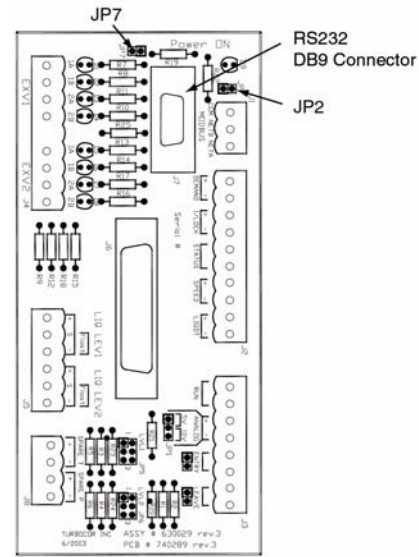

Figure 1 RS232 Connector - Chiller Interface Module
1. Connect one end of the RS232 cable (user-supplied) to the DB9 connector on the Chiller Interface module; see Figure 1.